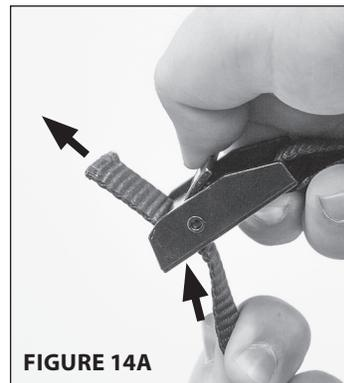

FIGURE 14A
1. Wrap the long strap of the cam buckle strap (26) around tree and then feed the long strap up and through the cam buckle on the other portion of the strap. Pull tight to secure the backrest to the tree. **SEE FIGURES 14A AND 14B.**